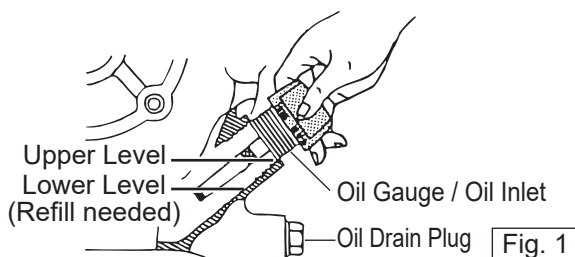

Fig. 1
1. Check the engine oil level. If the oil level is low, refill the oil. (Fig. 1)